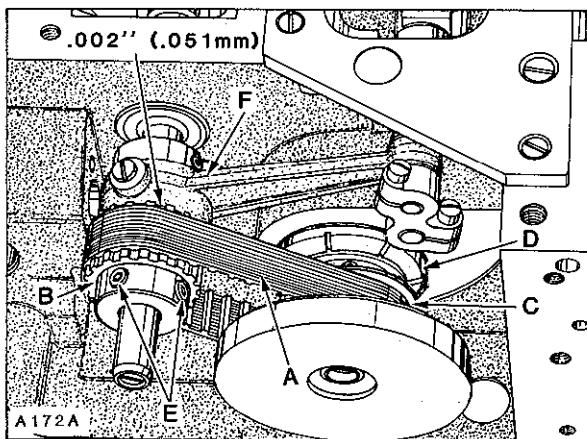
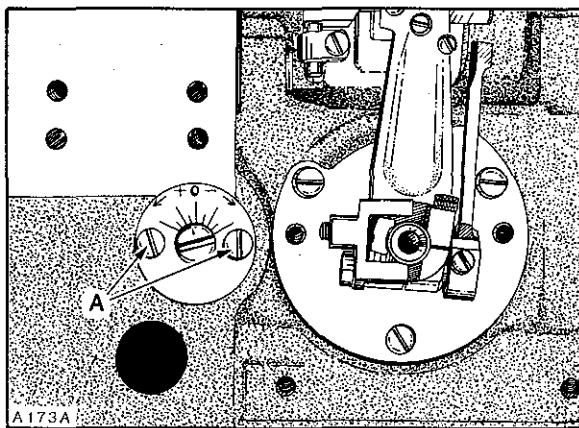

Fig.4
Fig.5
**NOTE:** End cover has been removed for clarity in Figure 4, but MUST BE IN POSITION WHILE MAKING THE FOLLOWING ADJUSTMENTS.
Looper drive belt, (A, Fig. 4) has proper tension if, when turning handwheel in operating direction to position looper in the center of its (right to left) travel.... there is no noticeable (right to left) play in the looper mechanism. There should be approximately 1/8 inch (3.2mm) deflection in looper drive belt when pressing firmly with thumb, midway between sprockets (B and C). Adjustment can be made by loosening two screws (A, Fig. 5) and turn looper module (D, Fig. 4) counterclockwise to tighten belt or clockwise to loosen, as viewed in Figure 4. Retighten screws (A, Fig. 5).
Rotate handwheel in REVERSE direction until pin in looper holder again makes contact with gauge plate and note the reading on the gauge. A variation of (1) graduation on the scale is permissible. If the reading is above "O", loosen screws (E, Fig. 4) and turn rear looper drive sprocket (B) towards the operator (clockwise as viewed in Figure 4). If the reading is below "O", turn sprocket away from operator (counterclockwise as viewed in Figure 4). Temporarily snug screws.
Rotate handwheel in OPERATING direction until pin in looper holder contacts gauge plate and note the reading on scale. If the reading is above "O", loosen screws (E) and turn sprocket (B) away from operator (counterclockwise as viewed in Figure 4). If the reading is below "O", turn sprocket towards the operator (clockwise as viewed in Figure 4). Temporarily snug screws.
Turn handwheel in reverse direction to position looper point even with the left side of RIGHT needle and check the distance from the eye of needle to the bottom of looper blade. If the distance was greater when handwheel was turned in operating direction, (as viewed in Sketch B) loosen screws (E, Fig. 4) and turn rear looper drive sprocket (B) away from operator (counterclockwise as viewed in Figure 4). If the distance was greater when handwheel was turned in reverse direction, (as viewed in Sketch C) turn sprocket towards the operator (clockwise as viewed in Figure 4). Temporarily snug screws.
Before tightening screws (E, fig. 4) securely, be sure to have .002 inch (.051mm) clearance between sprocket (B) and needle guard drive connecting rod (F).